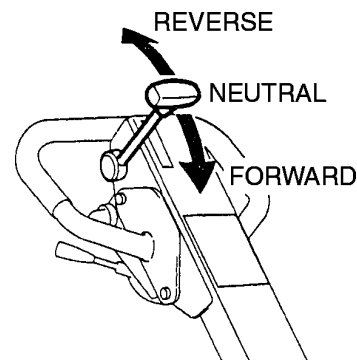

Figure 17. Travel Lever
- To make the compactor move in the forward direction push the travel lever (Figure 17) forward
4. To make the compactor move in the reverse direction pull the travel lever (Figure 17) backwards.